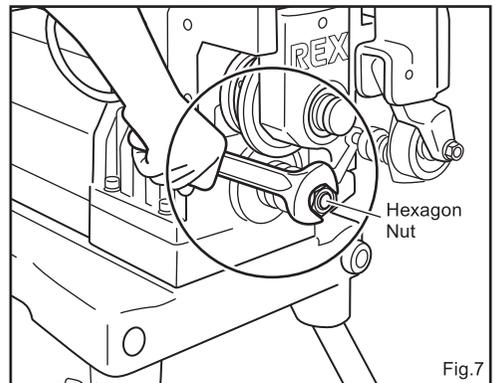

Fig.7
3. Pull the lower roller forward by loosening the hexagon nut on the main shaft and removing the washer. (Fig. 7)